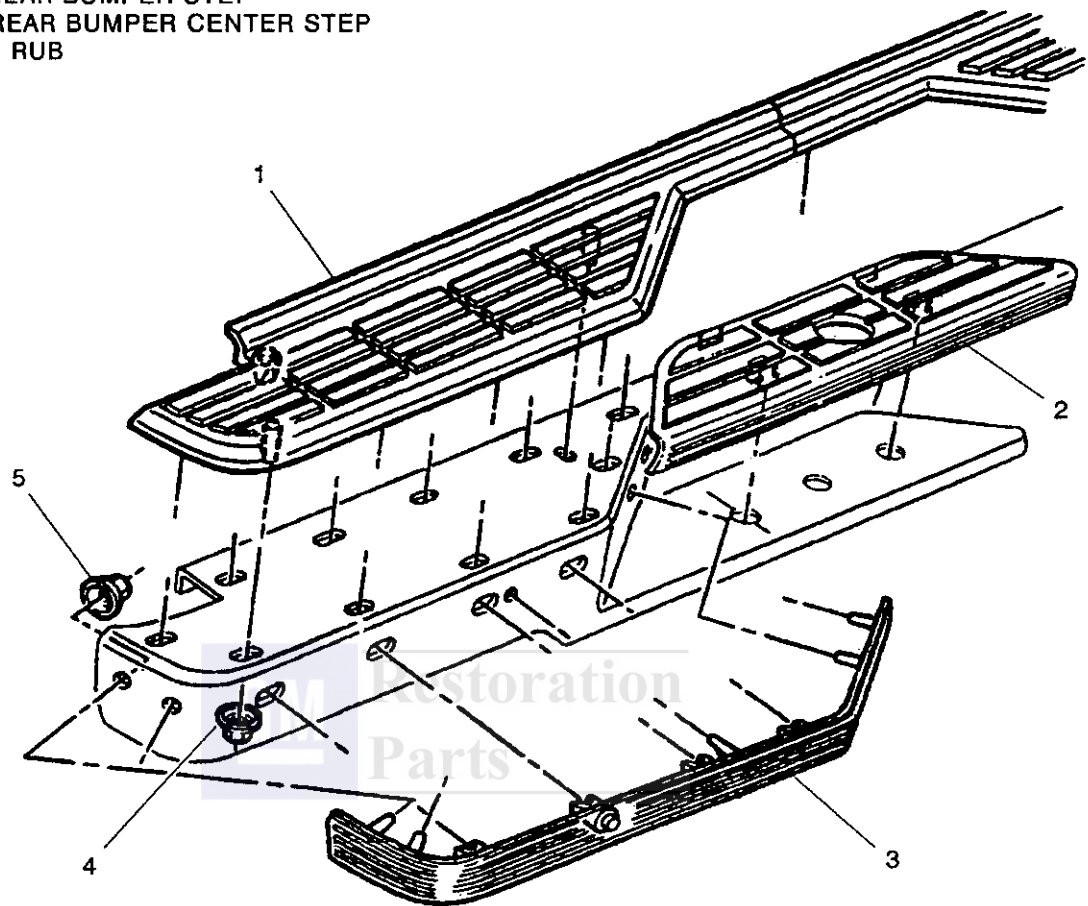

Figure 8—Rear Bumper Step Pads and Rub Strips
Remove or Disconnect (Figure 8)
Install or Connect (Figure 8)
- Align the bumper (figure 8).